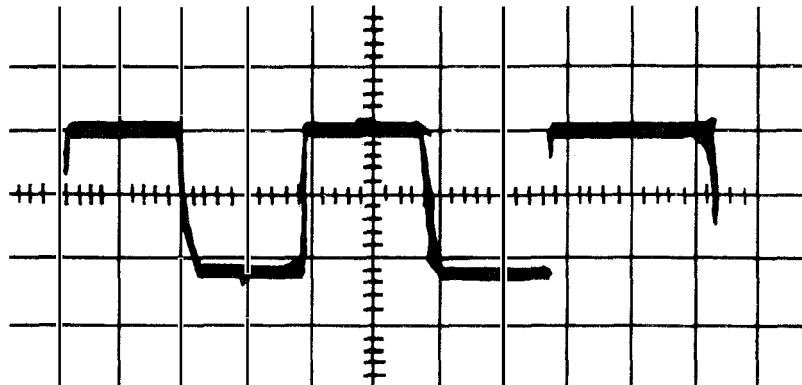

Figure 5.1 Waveform, Method I
2. Insert a test tape in the TD. The tape should contain a repetitive character such as an R. Start the TD and adjust the scope sweep controls to obtain a stationary pattern including several marks and spaces. A pattern similar to that shown by Figure 5.1 should be obtained. The marking and spacing levels should be symmetrical with respect to the scope base line.
Do not use the stop baud as a marking element. It is of a longer time duration than the other elements of the signal. The stop baud appears at the right hand side of the trace shown by Figure 5.1.